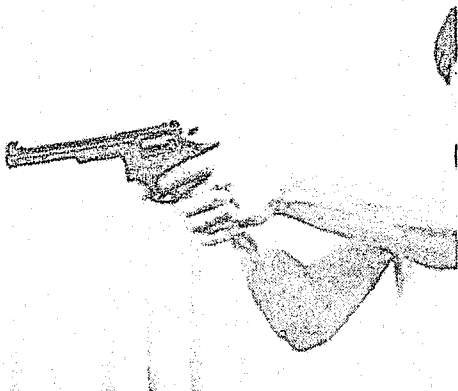

Figure 7-8
3. Loading - Left Hand (See Figures 7-8 through 7-13)